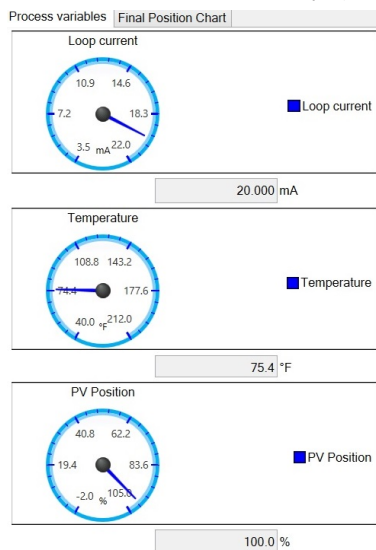

Figure 14: Process Variables
- *Process Variables*: This tab displays the visual values of Loop Current in mA, Temperature in °C or °F and PV Position in %. See **Figure 14**.